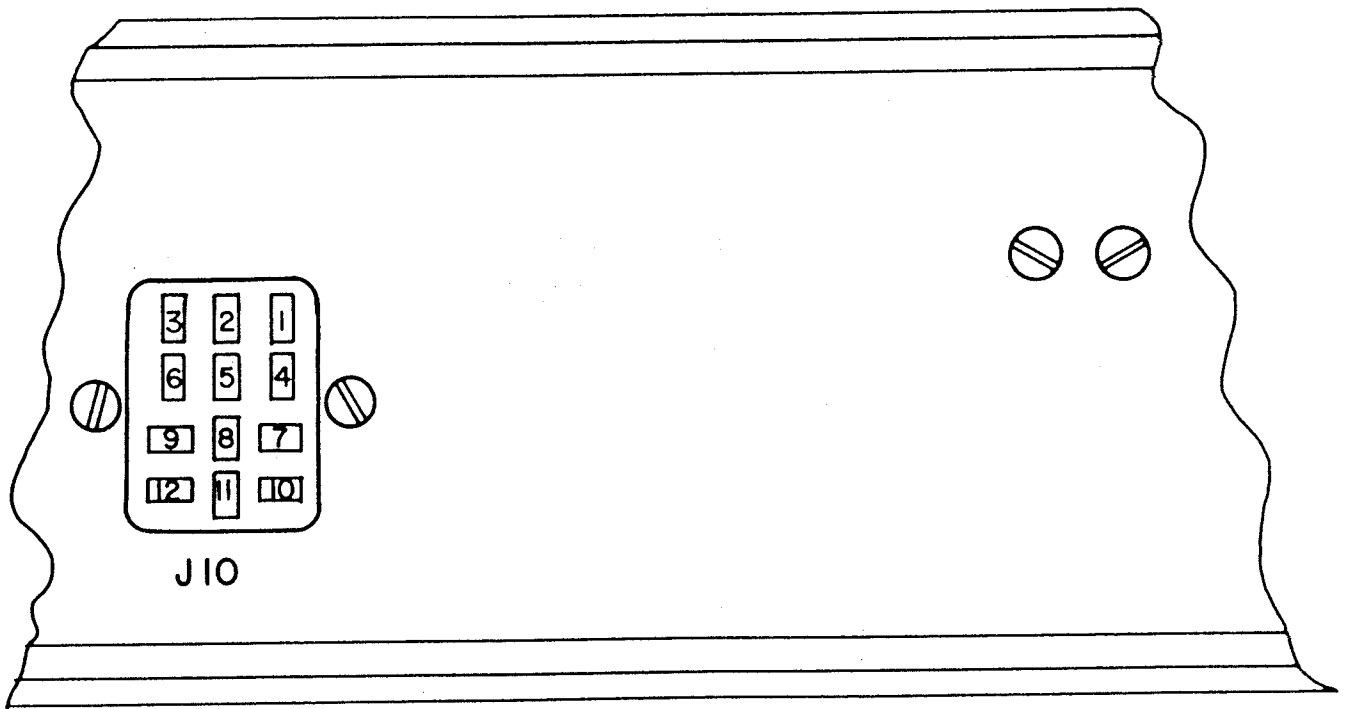

FIGURE 2.4. KT-21 ACCESSORY CONNECTOR PIN ASSIGNMENTS.
5. Accessory. Use this input in conjunction with the "aux" button on the front panel to play a tape or other non-sync sources. (Special voltage connections are also made through this connector. See Figure 2.4 and Section 2.4.3.
Accessory Connector. Refer to Figure 2.4. This jack provides optional connection points for DC voltage and audio signals.